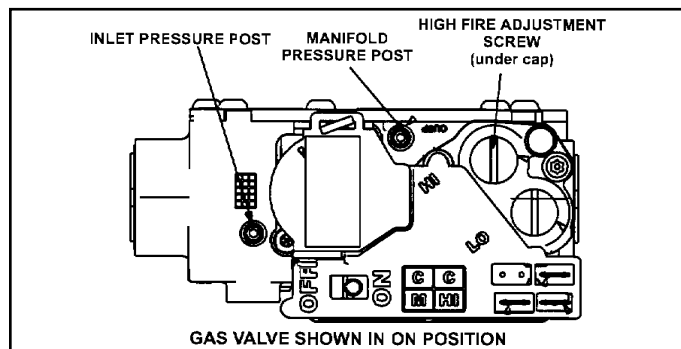

Figure 74.
6. Move gas valve switch to OFF. See Figure 74.
8. Move gas valve switch to ON. See Figure 74.
An inlet pressure post on the inlet side of the gas valve provides access to the supply pressure. See Figure 74. Back out the 3/32 Hex screw one turn, connect a piece of 5/16" tubing and connect to a manometer to measure supply pressure.
1. A manifold pressure post located on the gas valve provides access to the manifold pressure. See Figure 74. Back out the 3/32 Hex screw one turn, connect a piece of 5/16" tubing and connect to a manometer to measure supply pressure.